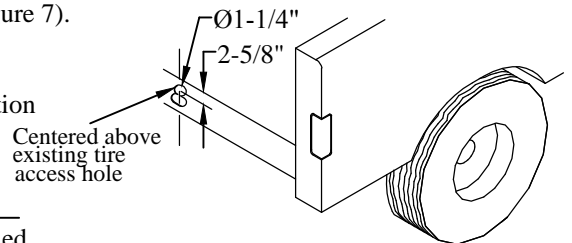

Figure 8: Spare tire access hole location.
- 3. Drill** a 1-1/4" diameter hole, centered above the existing tire access hole, and 2-5/8" down from the top of the box (Figure 8). Some trucks have a vibration damper that conflicts with the drilled hole, the damper can be removed.